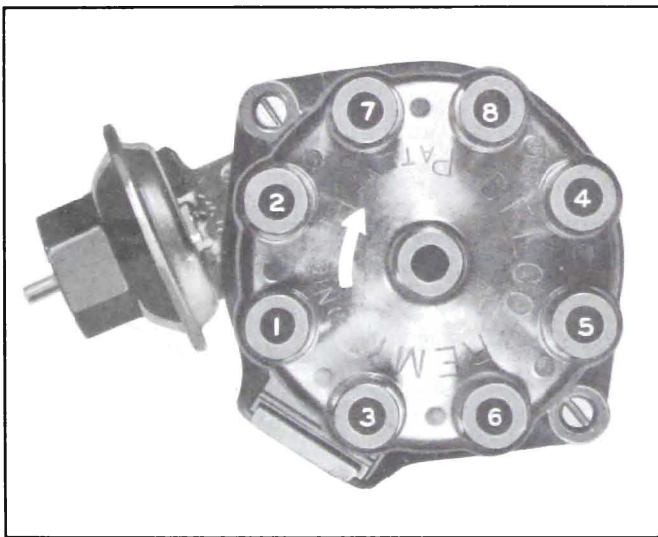

Figure 10-41—Installing Spark Plug Wires in Cap
5. Install distributor cap. Make sure that spark plug wires are correctly installed in distributor cap, through clips on rocker arm covers, and on spark plugs. See Figure 10-41.
No. 1 spark plug wire is installed in the distributor cap terminal just forward of the vacuum advance unit. The other wires are then installed in a clockwise direction according to the firing order, 1-2-7-8-4-5-6-3. See Figure 10-41.